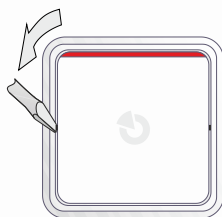

Fig. 2a
- Before installation it is necessary to take the device apart into three parts see figure 2a, 2b and 2c.
- Remove the top part of the housing (using a screwdriver) as shown in Fig. 2a.
The control panel automatically detects and reports a low battery status. It is necessary to enter the system into service mode before battery replacement takes place (the button is equipped with a tamper sensor). The device may be opened as shown in Fig.2a. Before placing new batteries into the device, wait at least twenty seconds or repeatedly press the activation button (in order to discharge any remaining energy within the device). In order to assure correct functionality of the device, we recommend the utilization of batteries supplied by the Jablotron distribution network or any other high-quality brand-name lithium batteries.